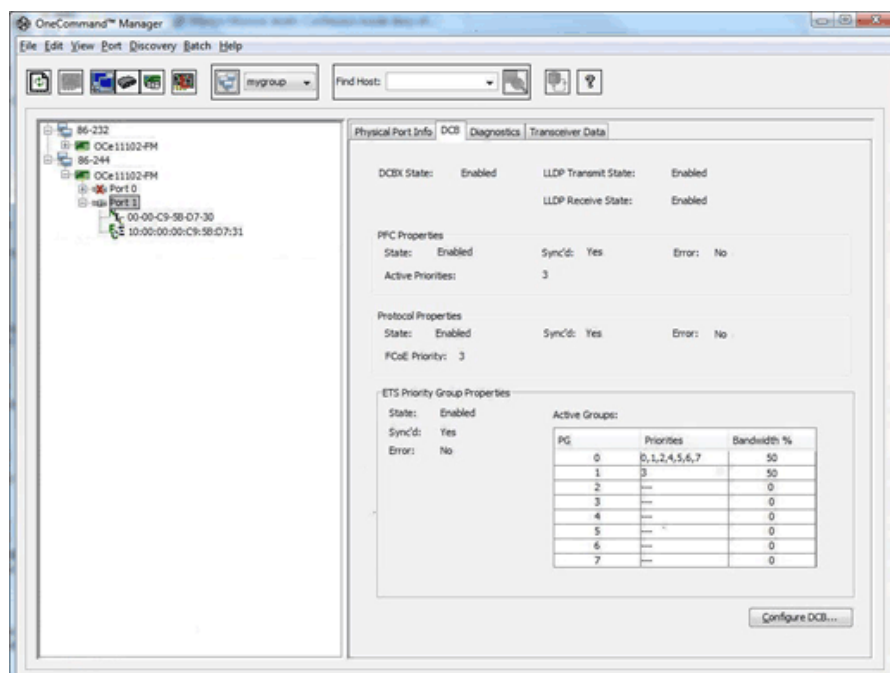

Figure 10-5 DCB Tab (NIC + FCoE adapter port selected)
2. Select the **DCB** tab (Figure 10-5 on page 216).